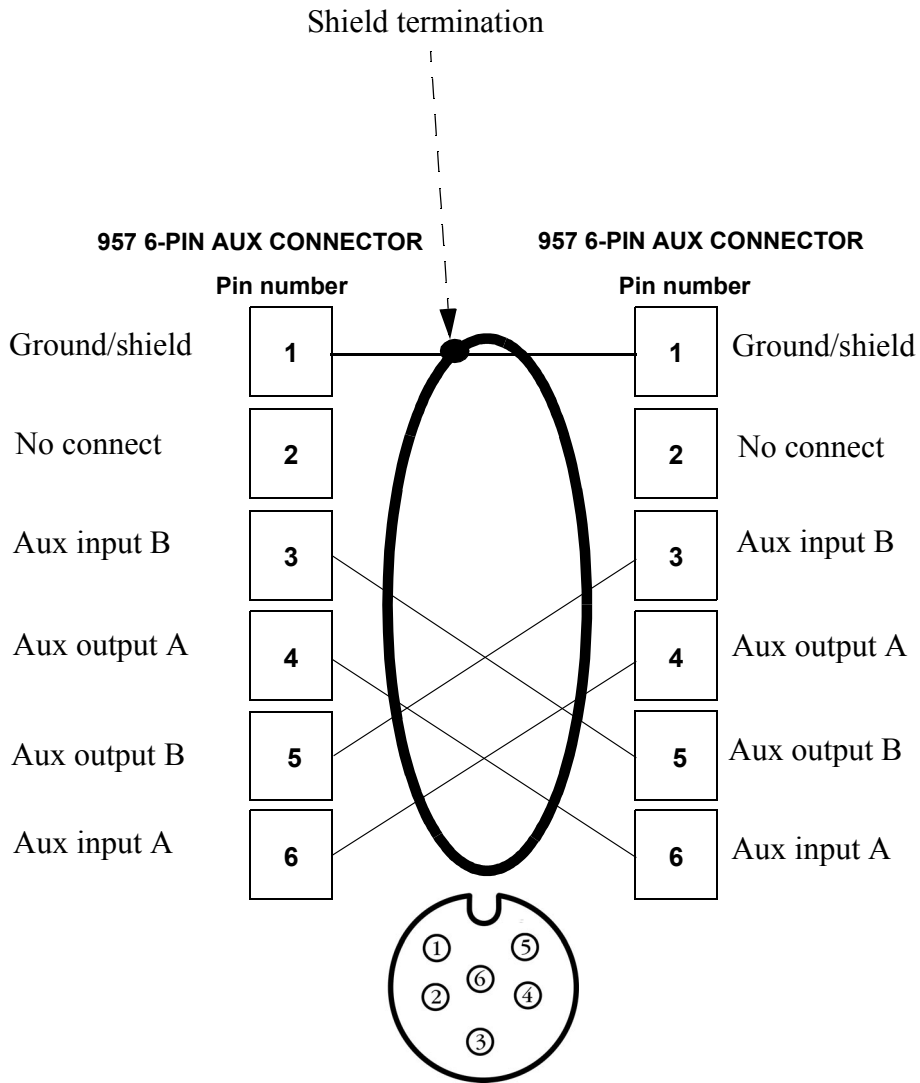

Figure 17: 957 aux ports' interface diagram (wiring side view, solder cup)
- For wiring two 957's, see Figure 17 on page 51 and Table 8 on page 51.